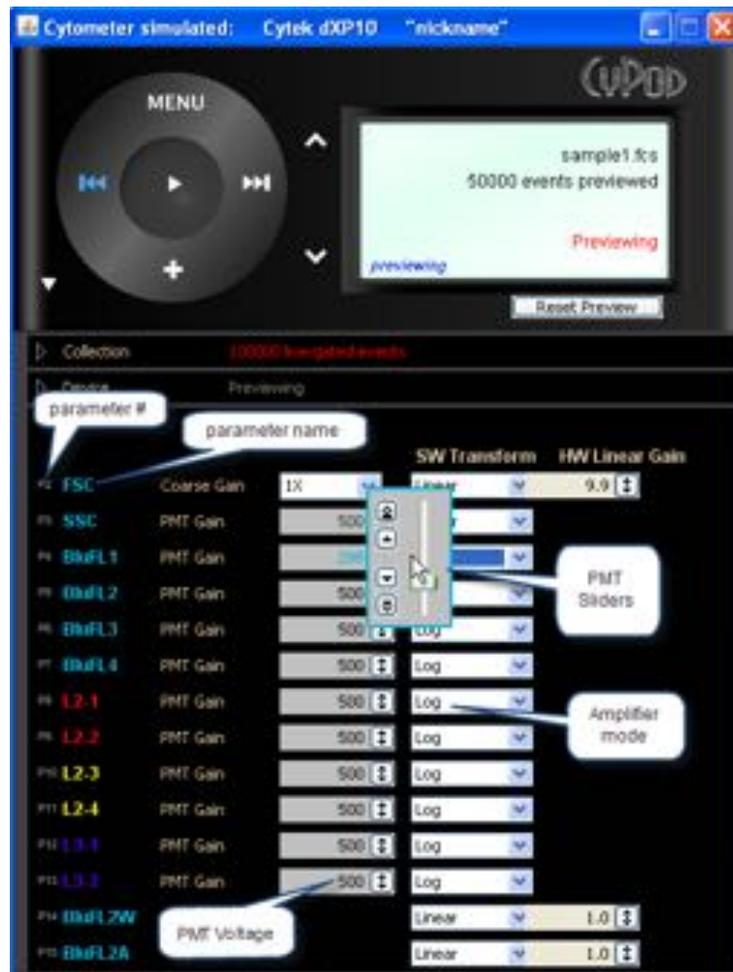

Figure 6.7.1
**Note:** Figure 6.7.1 illustrates a 4 laser 10-color system. Different Cytek instrument models will vary from this appearance.
- Laser 2 can be shared by three lasers and is the second laser position. In figure 6.7.1, L2-1, and L2-2 are excited by the red laser and color-coded as such. L2-3 and L2-4 are excited by the 561 yellow laser and color-coded as such.